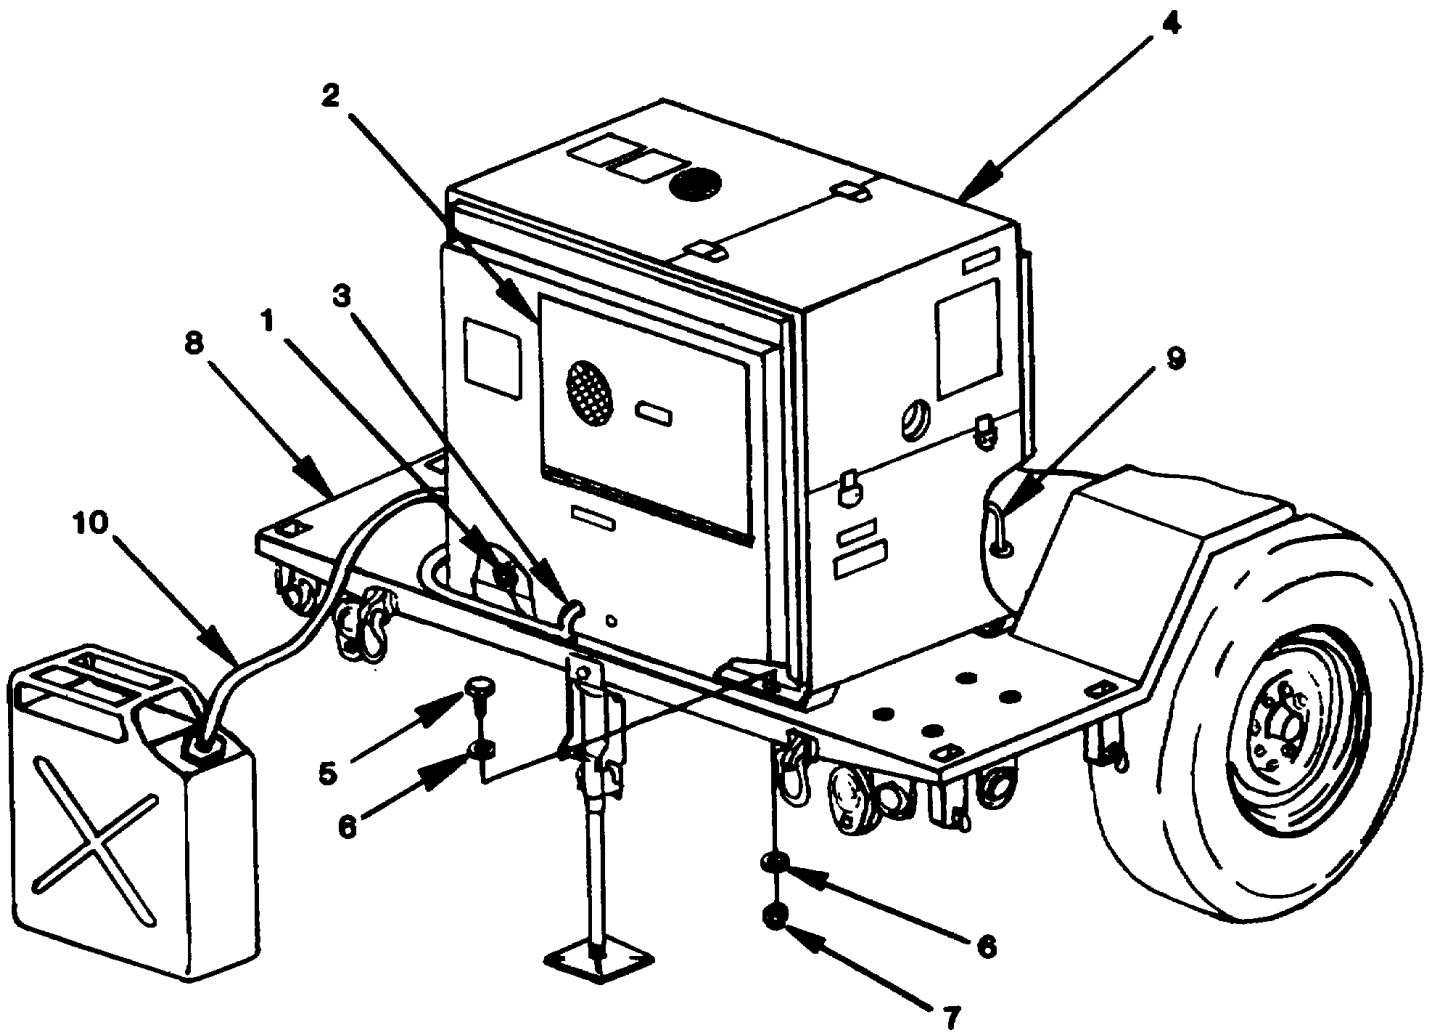

Figure 5-1. Detaching Generator Set from Trailer.
- (1) Remove tarpaulin from AN/MJQ-33 (paragraph 3-6a(1)).
- (2) Remove four bow assemblies from AN/MJQ-33 (paragraph 3-6b(1)).
- (3) Remove ground wires from generator set ground stud (1, figure 5-1).
- (4) Open service access door (2), and disconnect all load cables (3) and remove from generator set (4). Close access door.
- (5) Remove four screws (5), eight washers (6), and four locknuts (7) securing generator set (4) to trailer bed (8).
- (6) Remove engine oil drain hose (9) from grommet in AN/MJQ-33 trailer bed.
- (7) Disconnect auxiliary fuel line (10), if connected.
- (2) Lower generator set (4, figure 5-1) on trailer bed (8) and align mounting holes.
- (3) Insert four screws (5), four washers (6) through generator set and trailer.